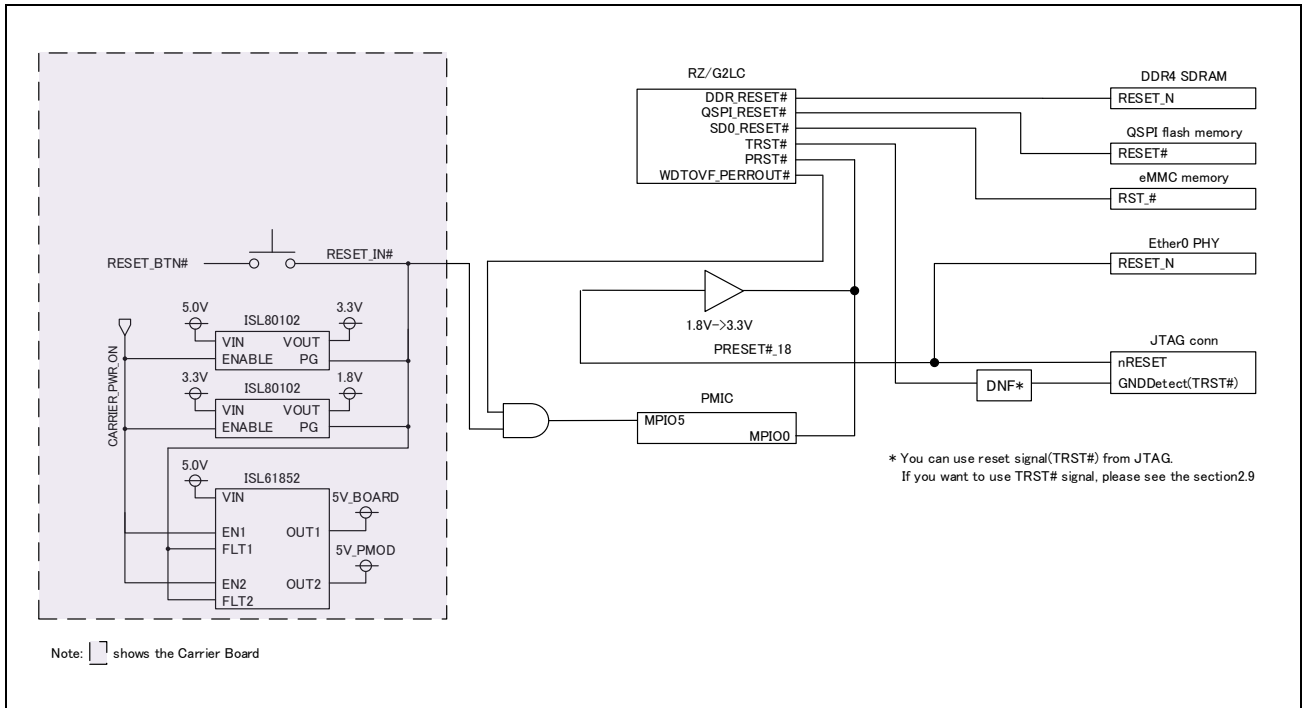

Figure 2.5 Block Diagram of Reset Control
**Figure 2.5** shows block diagrams of a reset control for RTK9744C22S01000BE (RZ/G2LC Evaluation Board Kit).